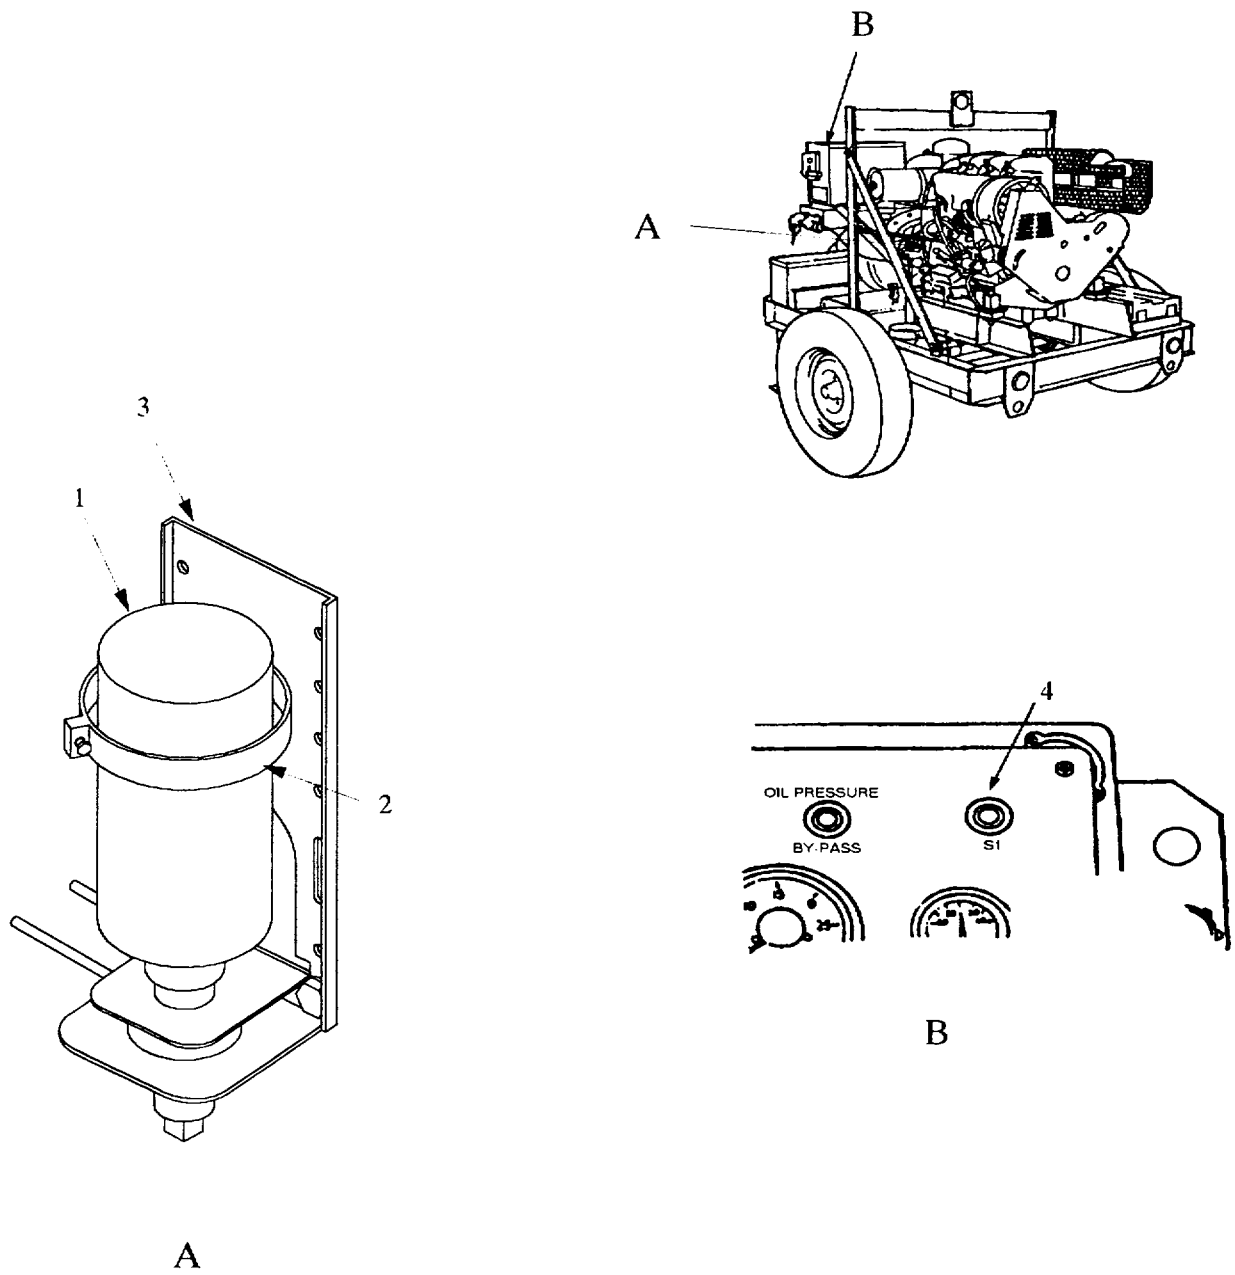

Figure 2-11.1. Cold Start Reservoir and Pump (Model 350 PAFN).
- a. The engine start cartridge(1, figure 2-11.1) is secured with clamp(2) in bracket( 3) and mounted on the engine. To determine if the cartridge is serviceable or requires replacing refer to procedures in paragraph 4.10.4.1.